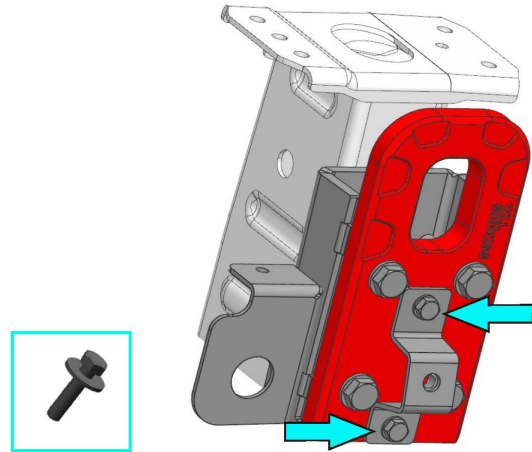

Fig.56
56. Install bash plate bracket (item K1) on recovery point (item G1) and fix using bolts M8x20, washers 8 (item B1, E1) (fig.56).